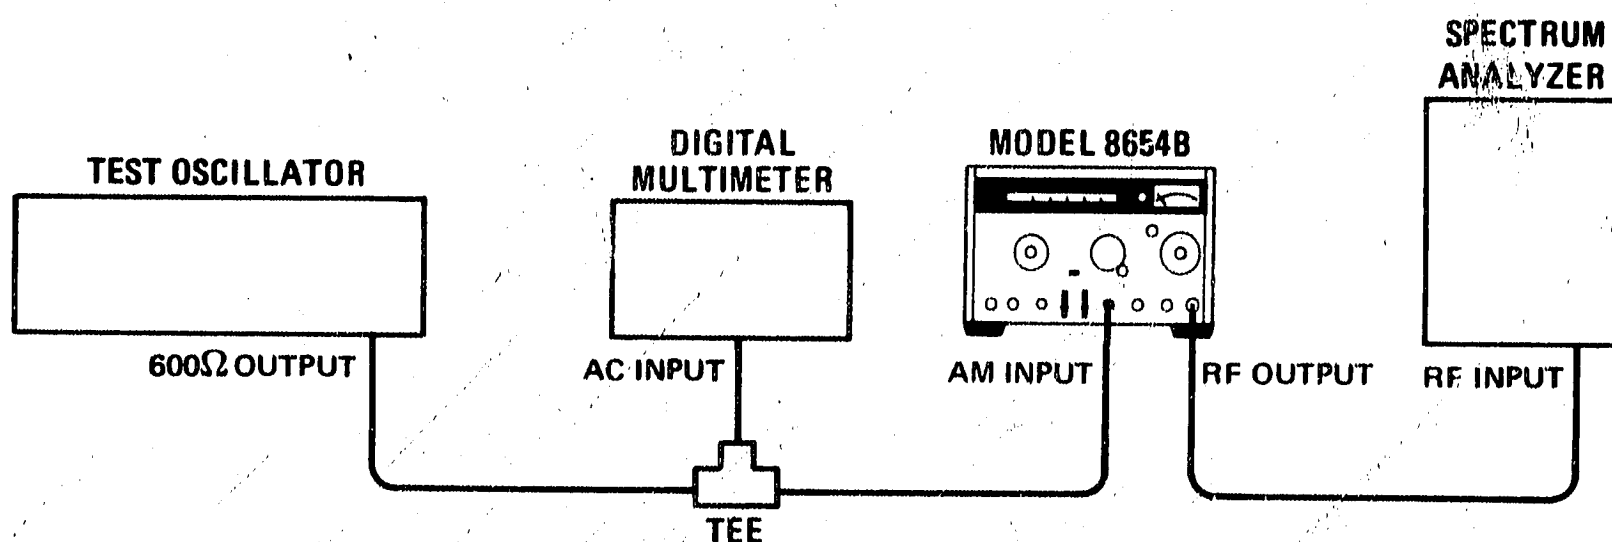

Figure 5-2. AM Sensitivity Adjustment Setup
1. Connect equipment as shown in Figure 5-2, after setting Signal Generator controls as follows: